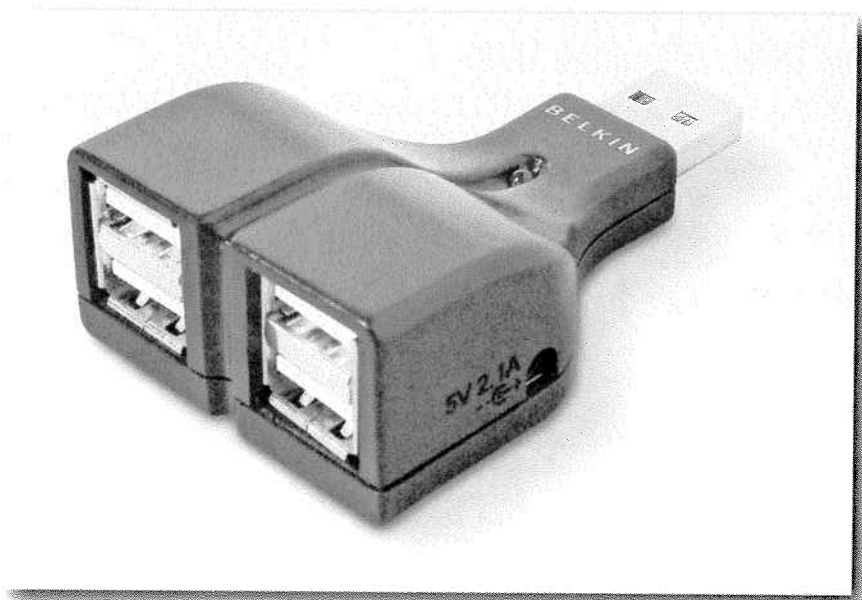

FIGURE 18-3: The Belkin Micro USB 2.0 hub.
- A two- or four-port micro USB hub (~\$20–\$50, these are the small USB hubs, also called thumb-USB hubs). I chose a four-port for convenience (see Figure 18-3). I also recommend that the hub be USB 2.0 instead of 1.1, because a 2.0 hub supports much faster devices and can also support USB 1.1 devices. Make sure the hub doesn't *require* a power adapter but can utilize an external power supply if needed (some even come with the external power adapter).